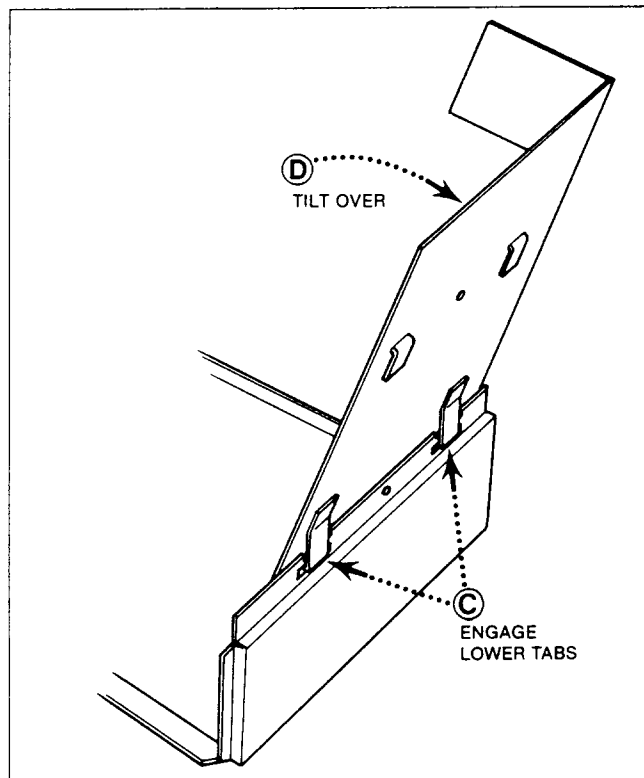

FIG N3 N SERIES SERVICE POSITION
3. Tilt the panel (D) (Fig N3) and engage the lower tabs (C) in the main chassis slots.